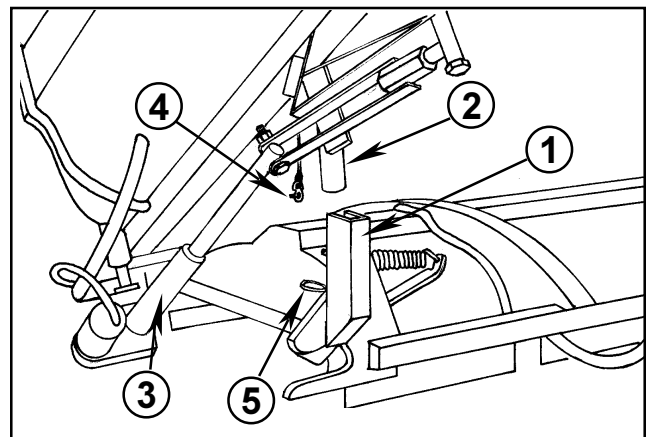

FIG. 2.
4. Walk with the boom towards the sprayer. Insert the transport pin into the receiver. Be sure to secure the safety clip to the forward loop. See FIG. 2.